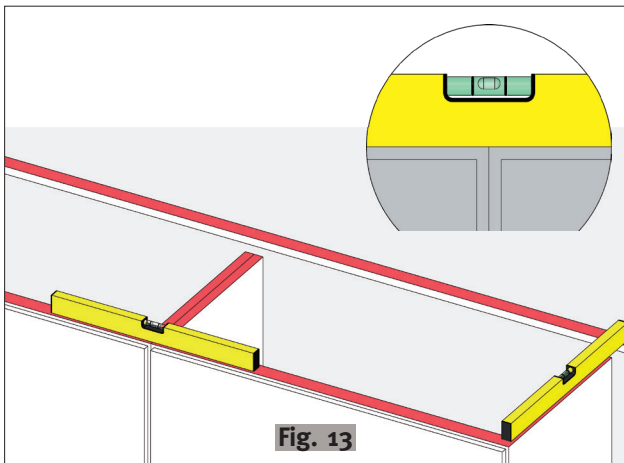

Fig. 13
- 3a. The cabinets should be placed perfectly levelled (fig. 13 and 14).